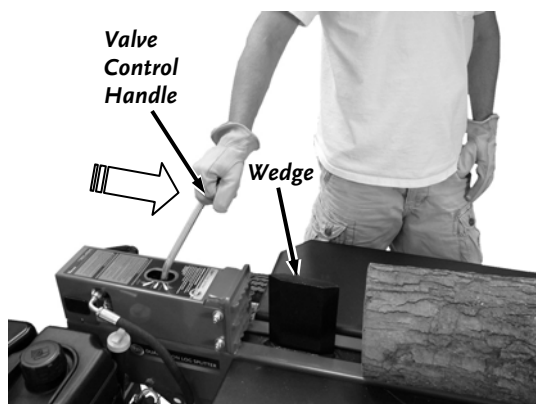

Figure 32
2. Using only your hand, push the Valve Control Handle forward (towards the log) (*Figure 32*). If the log moves before it is contacted by the Wedge, release the Valve Control Handle and then reposition the log.